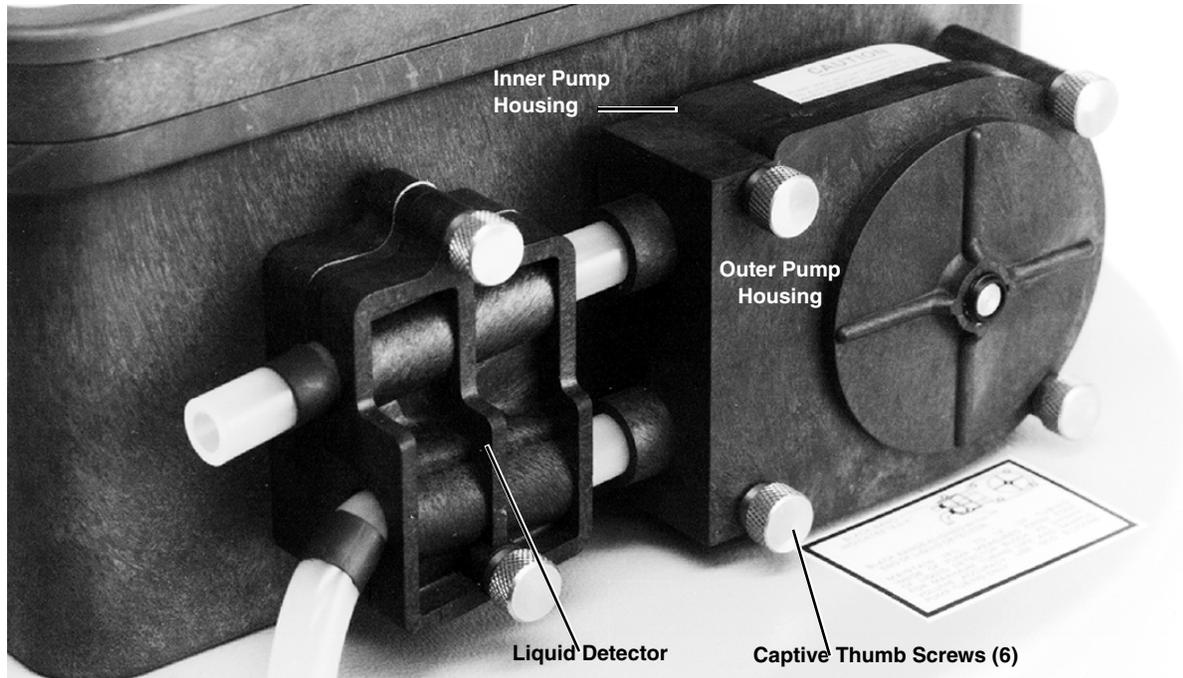
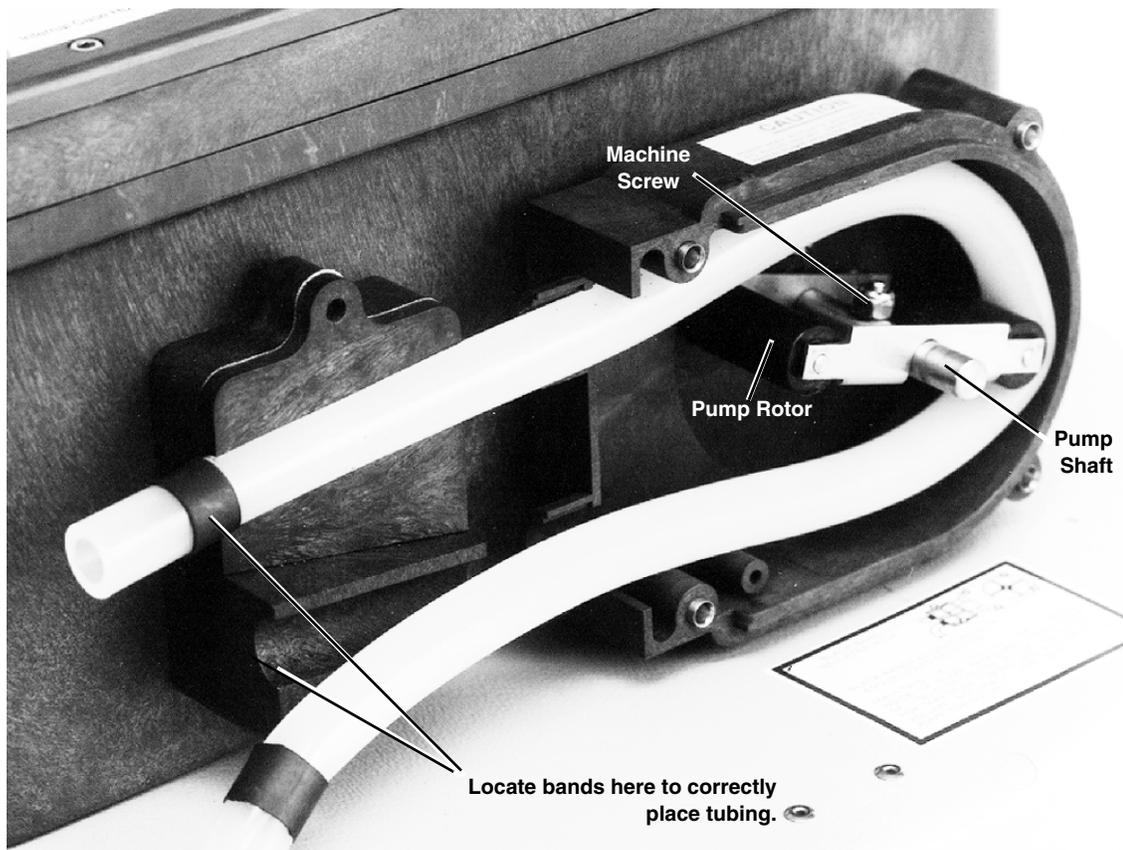

Figure 5-1 Liquid Detector and Pump Case
Figure 5-2 Interior of Liquid Detector and Pump Tube
2. Detach the outer cases of the liquid detector and pump by loosening the captivated thumbscrews shown in Figure 5-1. This will expose the pump tubing as shown in Figure 5-2.
Facing the liquid detector, place the inner edge of the end band against the upper left inlet of the liquid detector. Place the inner band at the lower outlet of the liquid detector. See Figure 5-2.